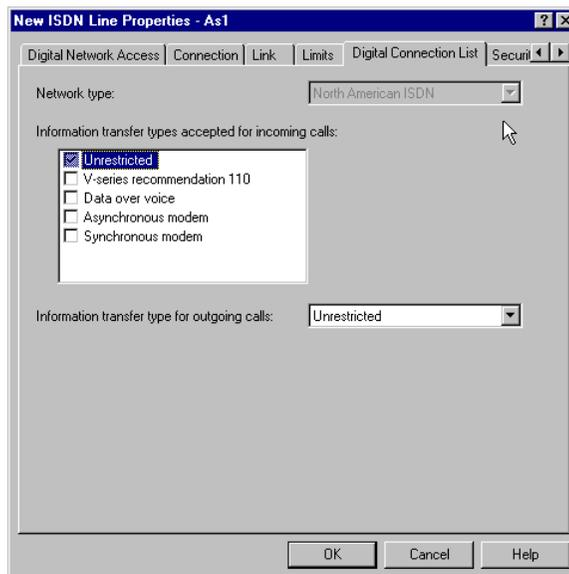

Figure 68. Digital Connection List page to create a new PPP line profile
9. Select and configure **Digital Connection List** page (Figure 68) for a new PPP line.